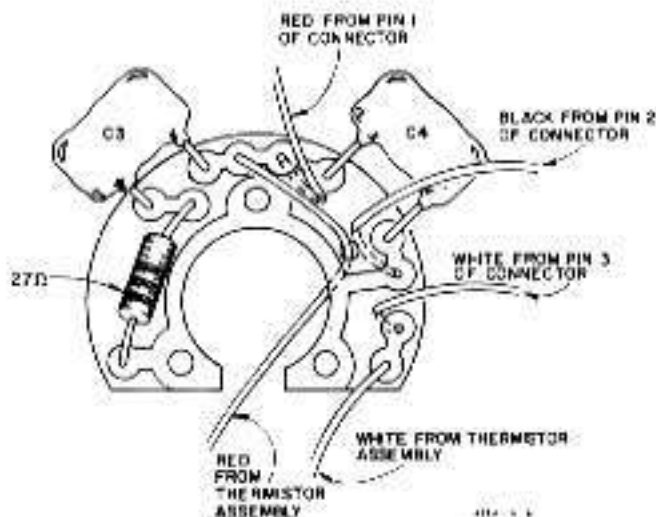

Figure 8. Model 478A Printed Circuit Assy Wiring
a. Referring to Figure 8, connect the three wires from receptacle connector to printed circuit assembly.
c. Pass the red wire from the Thermistor Assembly through the hole indicated in Figure 8. Do not connect to printed circuit assembly at this time.